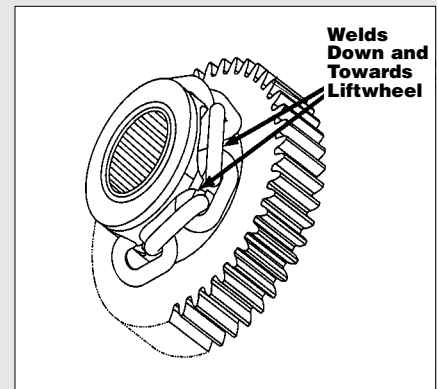

Figure 12C
3. Feed a short length of soft wire through the opening in the chain guide/stripper (620-192) until it comes out of the hoist. Attach "new" chain to end of the wire which is in the center of the hoist. Position the chain so that the welds will be down and towards the liftwheel as shown above in Figure 12C.